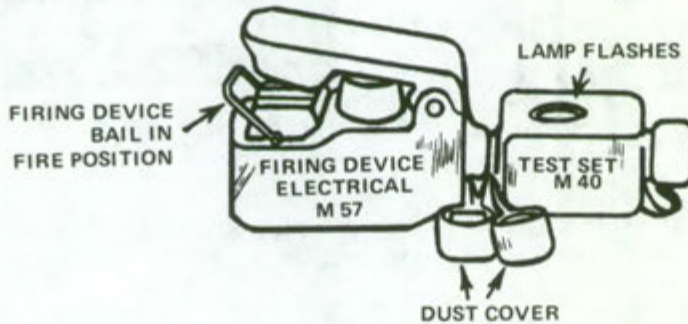
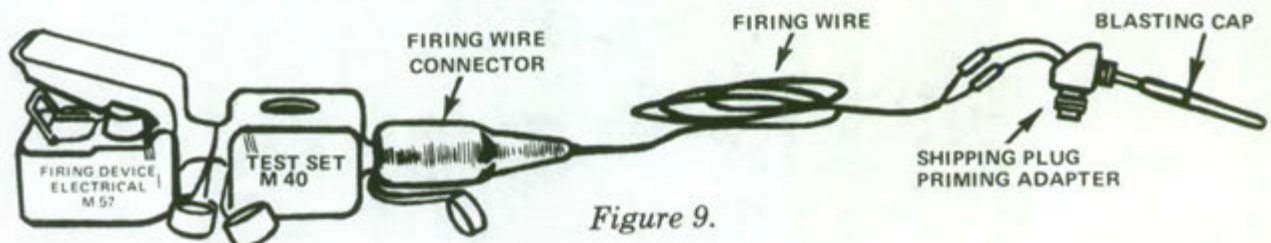

Figure 8.
Figure 9.
3. **Testing the Circuit.** To conduct a circuit test, remove the dust cover from the connector of the M57 firing device and from the female connector of the M40 test set. Plug the test set into the firing device (figure 8). Position the firing device bail to the FIRE position and actuate the handle of the firing device with a firm, quick squeeze and observe the window of the test set for a flash of light (figure 8). The flashing light indicates that the M57 firing device and M40 test set are functioning correctly. Remove the shorting plug dust cover from the connector of the firing wire and from the end of the test set. Plug the connector of the firing wire into the test set (figure 9). Place a sandbag over the blasting cap.
a. After circuit testing, return to the mine (with the firing device in firer's possession) and unscrew one of the shipping plug priming adapters from the mine. Slide the slotted end of the shipping plug priming adapter onto the firing wires of the blasting cap between the crimped connections and the blasting cap. Pull the excess wire through the slotted end of the adapter until the top of the blasting cap is firmly seated in the bottom portion of the shipping plug priming adapter (figure 9). Screw the adapter with blasting cap into the detonator.